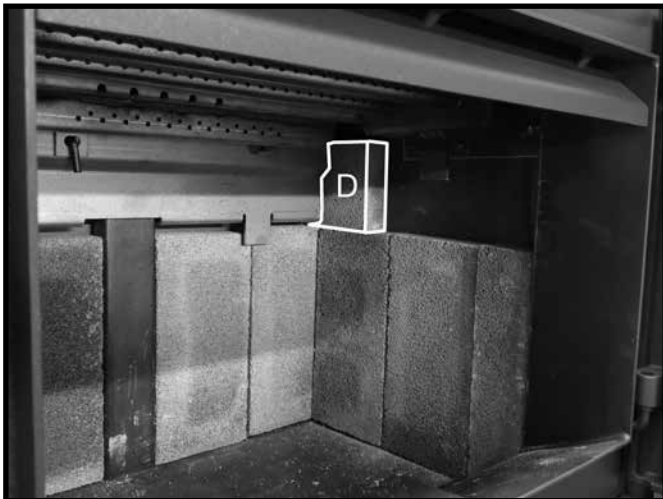

Figure 23: Small side wall firebrick in position.
3. Place a "D" firebrick on top of the previously placed "A" firebricks and slide this firebrick back toward the rear wall making sure that this firebrick tucks in behind the brick rail (Figure 23).